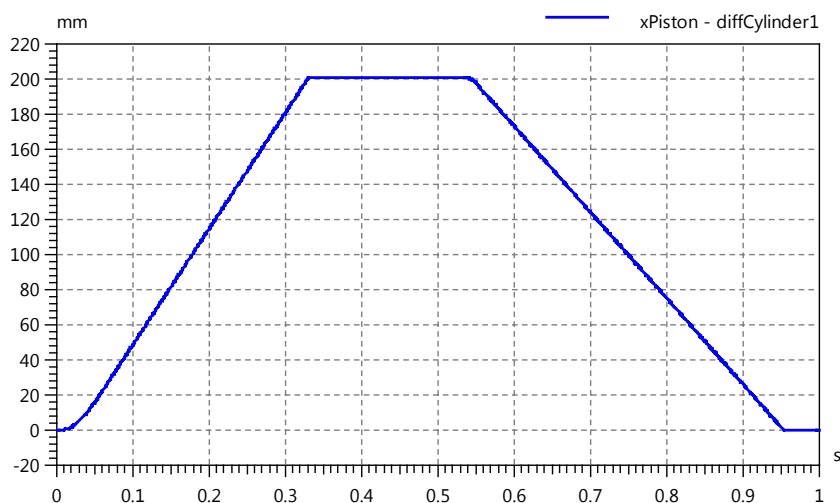
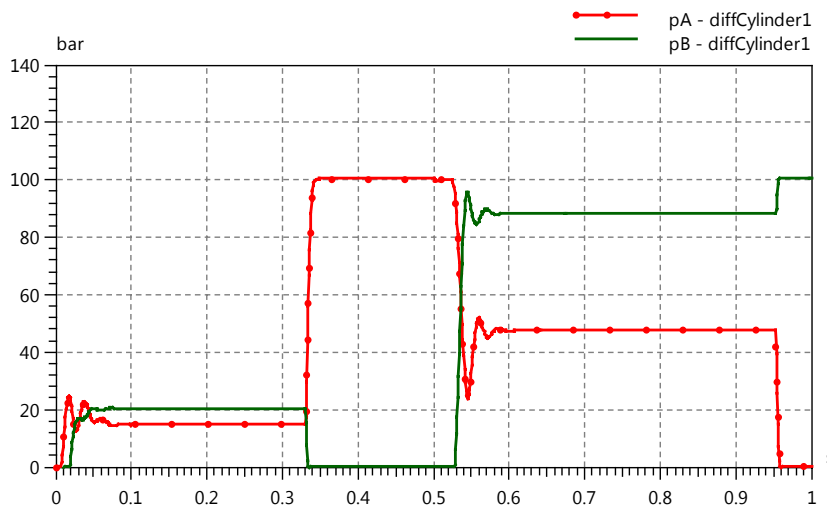

Figure 10: Simulation Results Piston Stroke
Figure 11: Simulation results pressures chamber A and chamber B
- The simulation results for the piston stroke and the cylinder chamber pressures are shown in Figure 10 and Figure 11.